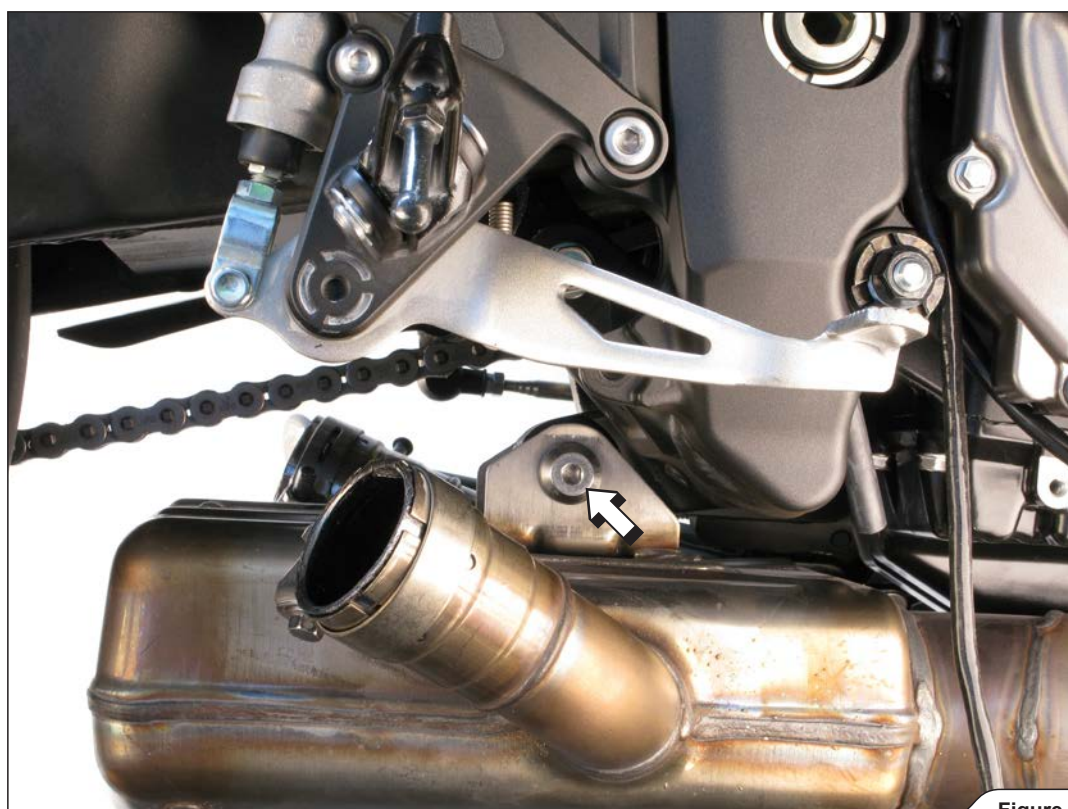

Figure 6
7. Unscrew the marked bolt and carefully remove the headers off the motorcycle (Figure 6).